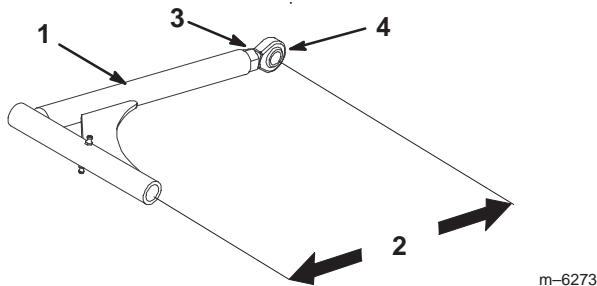

Figure 60
1. To adjust push arms, loosen jam nut and rotate ball joint counterclockwise, one turn at a time. (Fig. 60).
2. Adjust each side the same amount. Each push arm should have a nominal length of 15-5/16 inch (389mm) (Fig. 60).